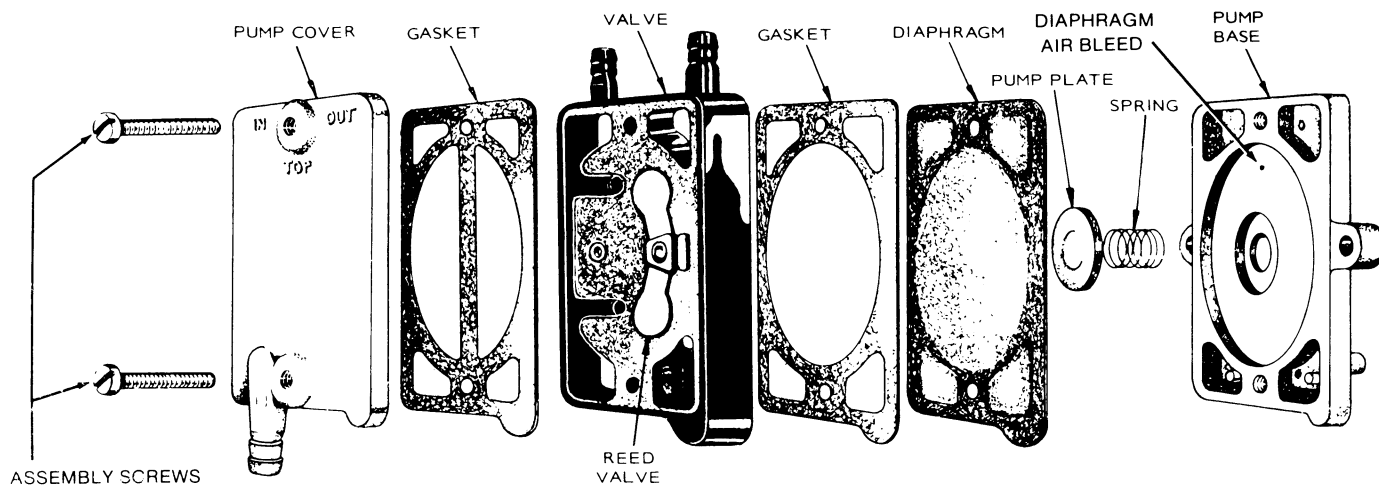

FIGURE 13. EXPLODED VIEW OF FUEL PUMP
3. Holding the pump carefully, remove the assembly screws (Figure 13).